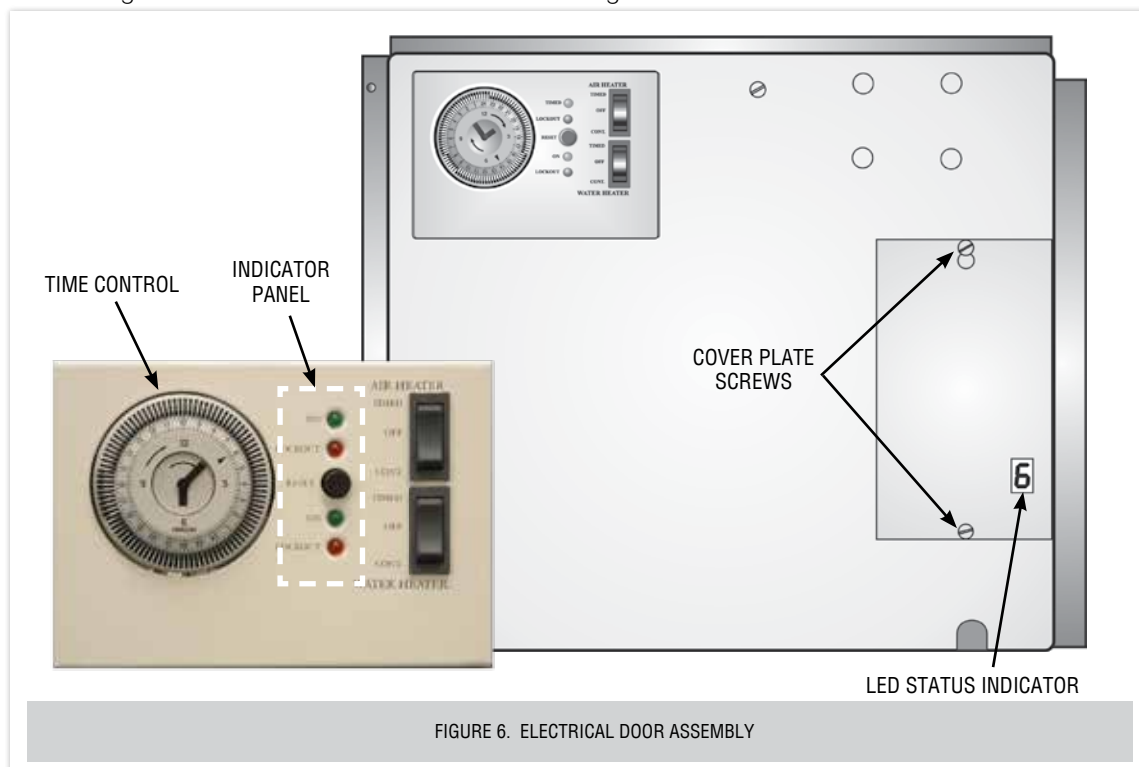

FIGURE 6. ELECTRICAL DOOR ASSEMBLY
- 13.3.4 Locate the LED status indicator which can be observed through the inspection hole at the bottom right hand corner of the control module. See Figure 6.